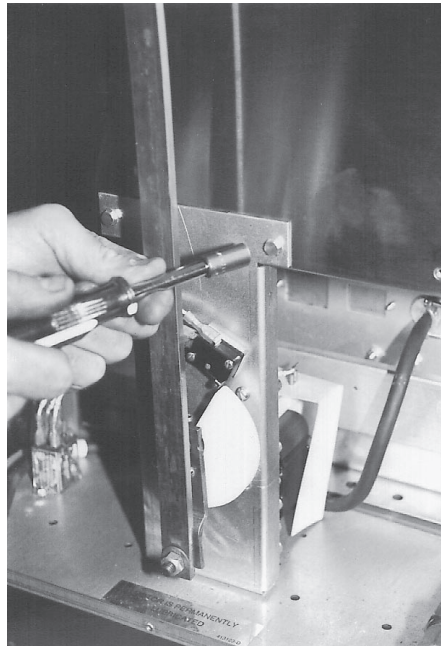

Fig. 67
4. With $\frac{5}{16}$ " socket, remove (2) nuts holding the cam lift bracket to the cooker back. (Fig. 67)
4. With a $\frac{5}{16}$ " socket, remove (2) screws holding the motor mount support plate to the cooker. (See Fig. 67)